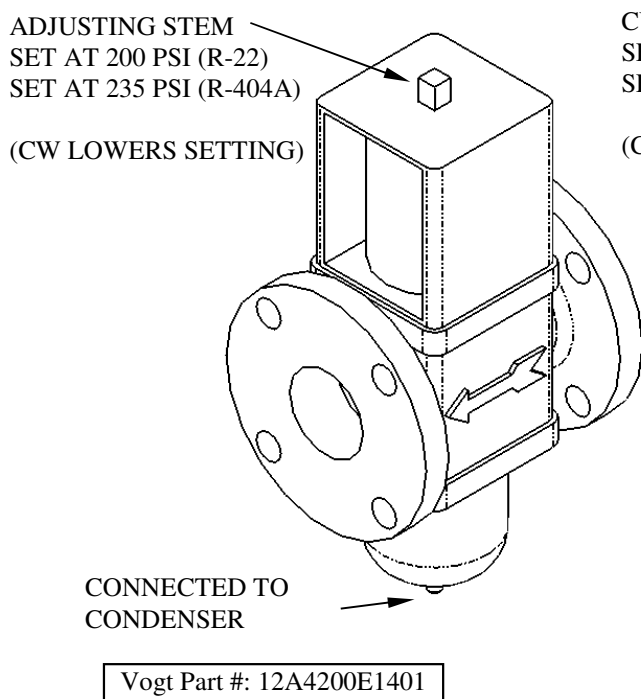
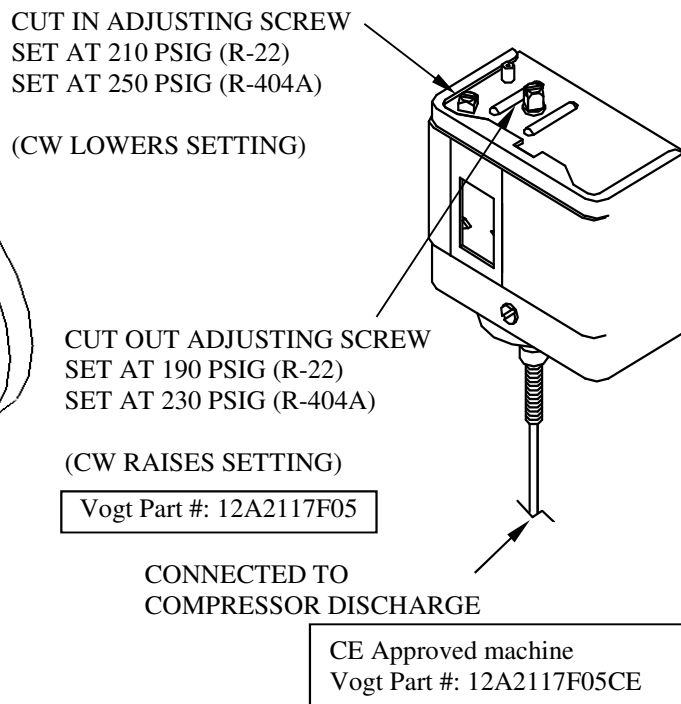

FIGURE 9-5A
FIGURE 9-5B
Insufficient heat for thawing because of low condensing pressure, non-condensables (usually air) in system, low refrigerant charge, or thaw gas pressure switch adjusted too low.	The head pressure should be maintained at approximately 210 PSIG for R-22 or 250 PSIG for R404a, which relates to 105F (37.8C). This is done by a water regulating valve (water-cooled units) FIGURE 9-5A, Section 9, or a Fan cycling switch (air-cooled units) FIGURE 9-5B, Section 9. If non-condensables are present with the refrigerant, the saturated temperature will not relate to the pressure reading at the receiver. The refrigerant level in the receiver should be near the operating mark at the end of a freezing cycle to provide enough volume for harvesting. (1" = approx. 11 lbs. of R22 or R404a).
Water-Cooled Units A water regulating valve (FIGURE 9-5A) located in the condenser water inlet line is used to control the water flow through the condenser. This valve should be adjusted to maintain a head pressure of 200 psig for R-22 and 235 psig for R-404a. Increasing the water flow lowers the head pressure and decreasing the water flow raises the head pressure. The valve is adjusted during the factory test. The valve stem should not be opened as far as it will go or the valve will not close fully when the head pressure drops below its setting.
Air-Cooled Units The condenser fan switch mounted to the frame (lower right side) (FIGURE 9-5B) (CPS) is used to regulate the head pressure. This is an adjustable pressure switch located on the right-hand front of machine. It controls the operation of the condenser fan motor(s) through a contactor (FC) (FIGURE 6-2) located in the control panel. The switch is set to cycle the fan motor(s) “On” at 210 psig and “Off” at 190 psig for R-22 and “On” at 250 psig and “Off” at 230 psig for R-404a. Higher settings may be necessary for 0°F and below ambient conditions to assure there is enough warm gas for ice harvesting.